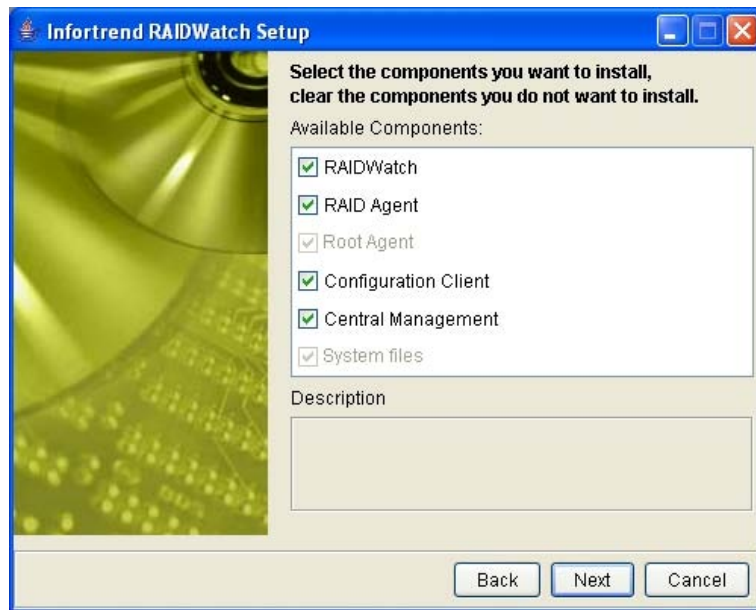
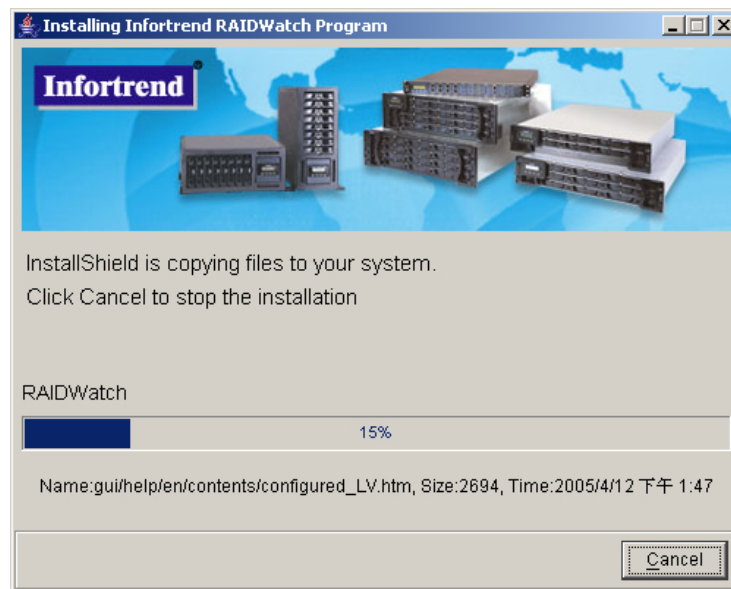

Figure 3-10: Optional Components
Figure 3-11: Installing Active
**Step 1.** If the *Next* button from *Figure 3-10* was selected, the Install Active window shown in *Figure 3-11* will appear. If you wish to stop the installation procedure, then click the *Cancel* button.